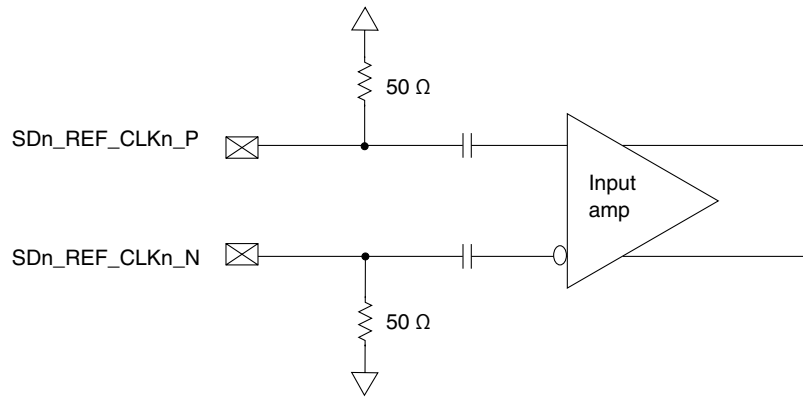

Figure 30. Receiver of SerDes reference clocks
- The $SDn_REF_CLKn_P$ and $SDn_REF_CLKn_N$ are internally AC-coupled differential inputs as shown in Figure 30. Each differential clock input ($SDn_REF_CLKn_P$ or $SDn_REF_CLKn_N$) has on-chip $50\text{-}\Omega$ termination to $SGNDn$ followed by on-chip AC-coupling.
- For an external DC-coupled connection, as described in Figure 30, the maximum average current requirements set the requirement for average voltage (common mode voltage) as between 100 mV and 400 mV.